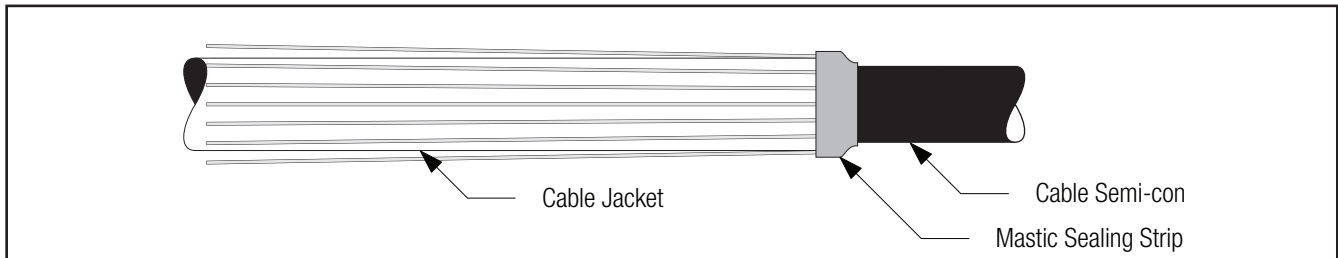

Figure 13
- 5.1 Wrap a mastic sealing strip against the neutral wires at the end of cable jacket (*Figure 13*).